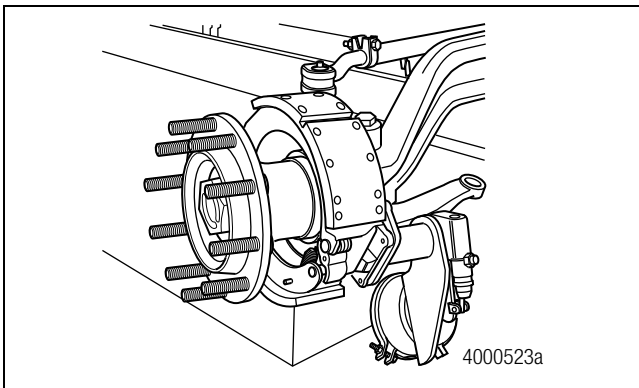

Figure 6.49
5. Remove the brake drum. Figure 6.49.